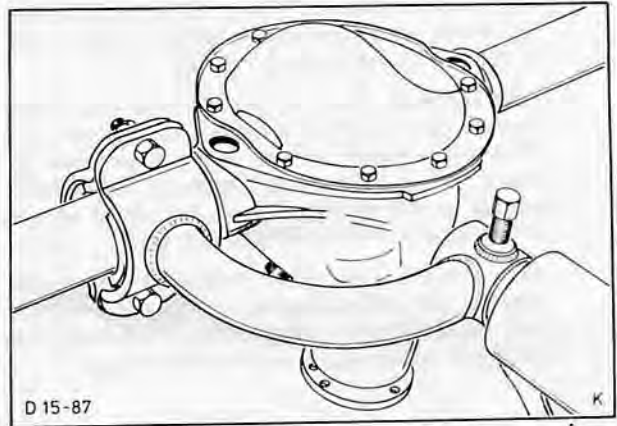

Fig. 56. Rear axle in mounting bracket 15-057 on stand
1. Mount rear axle on stand, Fig. 56, and remove axle casing cover (10 bolts).